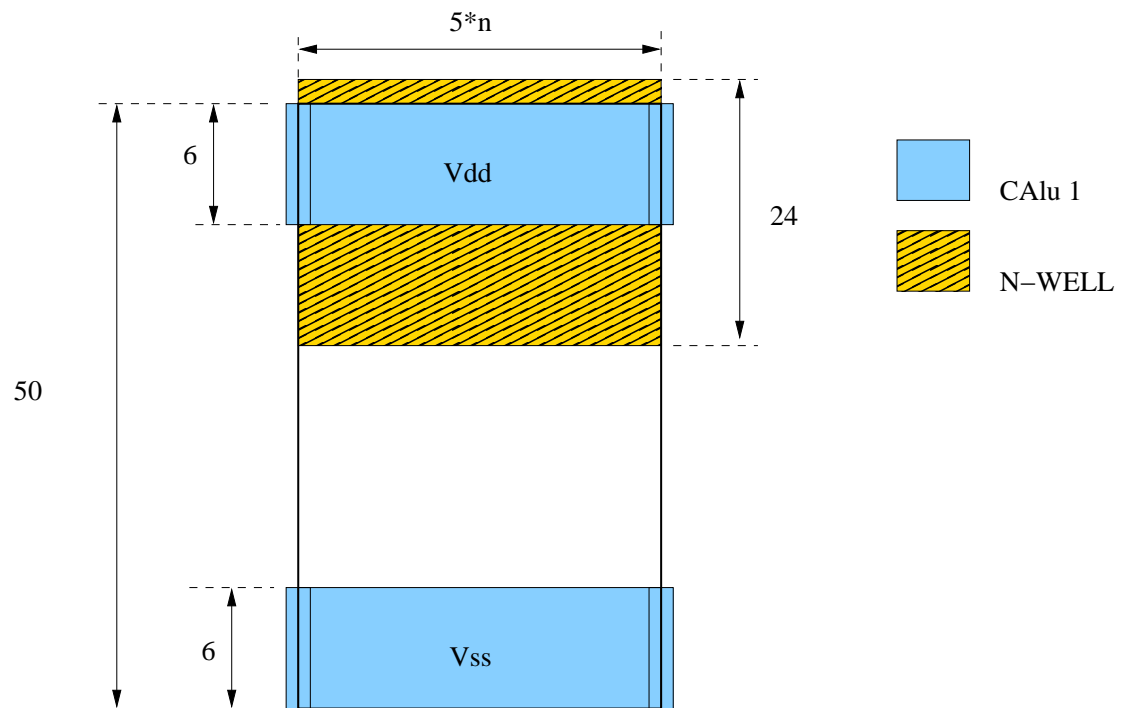

Figure 4: a cell model of the sxlib library
- draw the cell under **GRAAL** by respecting the gauge specified on the figure 4.
- draw the cell under **GRAAL** by respecting the gauge specified on the figure 4. You will use for that the instantiated function of **GRAAL** . The cell with instanciate is of course the inverter, which you will connect (will routing) manually.